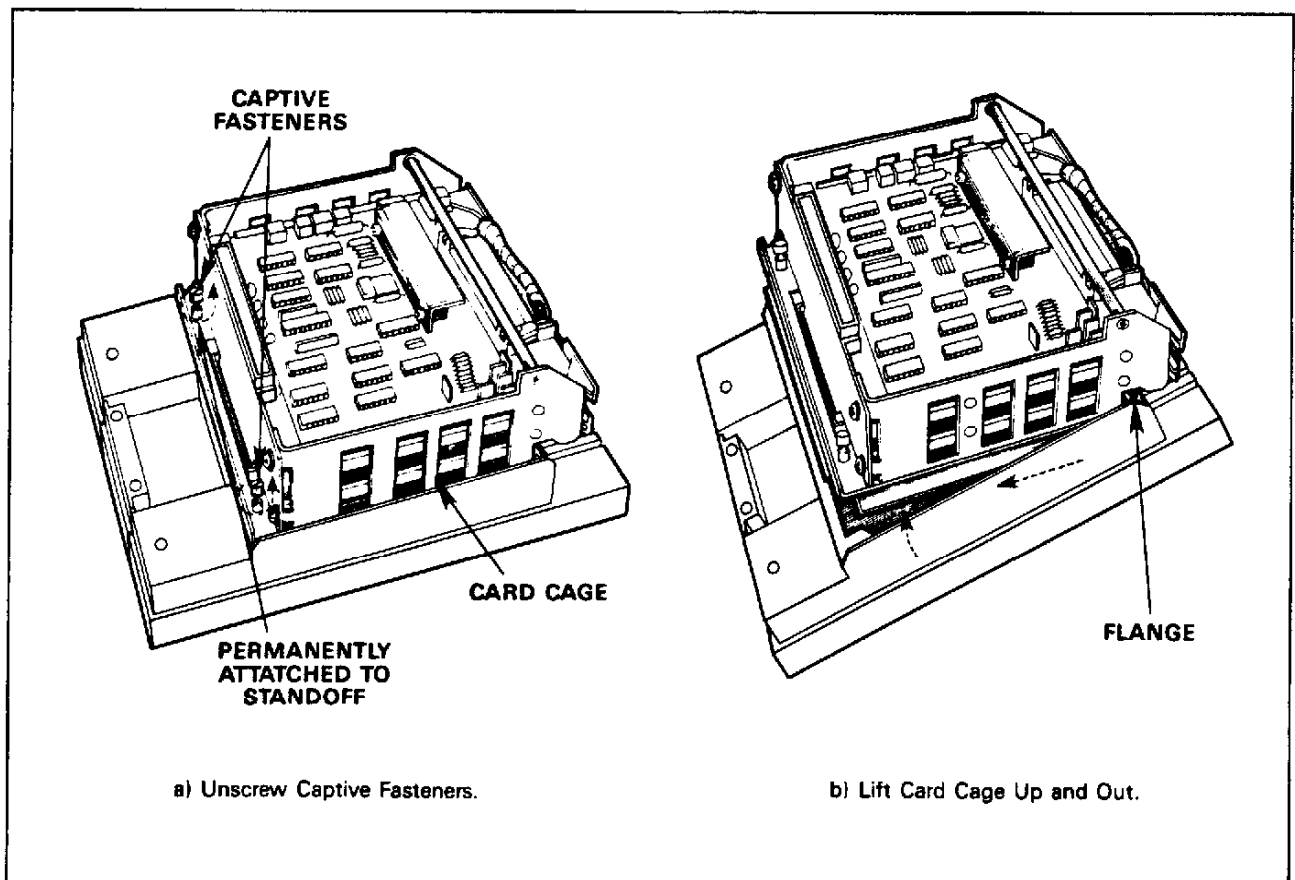

Figure 4-1. UniPak 2B Disassembly
To disassemble the UniPak 2B, refer to figure 4-1 and follow the procedure below.
10. Replace the card cage by tilting it up to lock the flanges, as shown in figure 4-1, then gently setting it down. Make sure the captive fasteners line up with the fastener holes on the UniPak 2B frame.
4. Unscrew the two thumb screws (captive fasteners) located on the underside of the top cover of the UniPak 2B (figure 4-1); they connect the card cage to the socket assembly. Separate the two parts of the assembly.